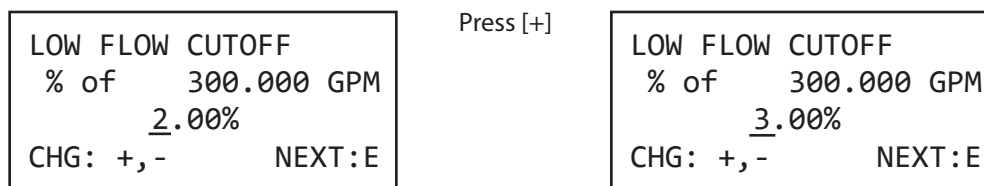

Figure 29: Enter a numeric value
**Example 2:** Some procedures require you to enter a numeric value. Use the [+] button to increment the selected numeral. Figure 29 shows the *Low Flow Cutoff* parameter display. Notice the cursor under the 2. In this case, press [+] once to increment the numeral to the value of 3.00%.